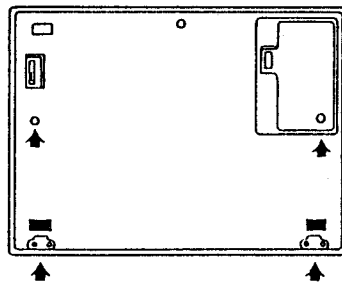

Fig. 2-1-5
- ① Turn off the power to the base unit. Check that the power indicator is out.
- ② Turn the base unit bottom side up, open the battery box cover, and turn off the battery backup switch.
- ③ Remove the main battery connector, and take the main battery out of the battery box.
- ④ Remove the four screws indicated in Fig. 2-1-5.